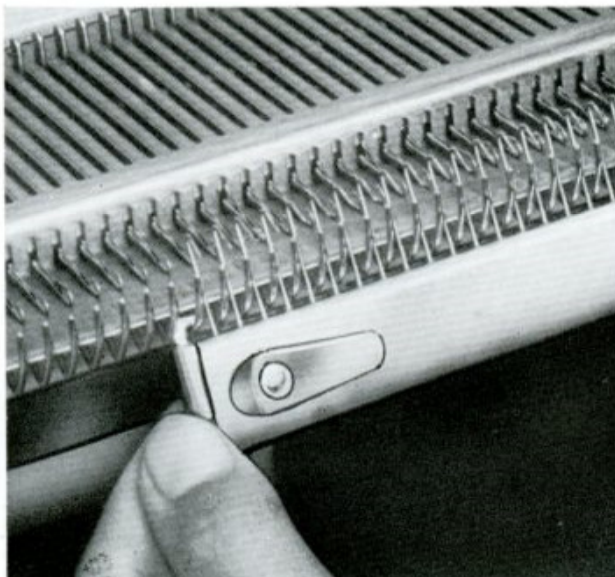

Fig. 23
The cast on comb should be use for both, the open edge and finished edge. To hand comb (see Fig. 23) select the large cast-on comb for full width or close to full width knitting or the small comb for 100 stitches or less.
- a. With the single transfer tool, pick up the stitch and the unknitted thread and put them both on the empty needle. (See Fig. 23, 33)